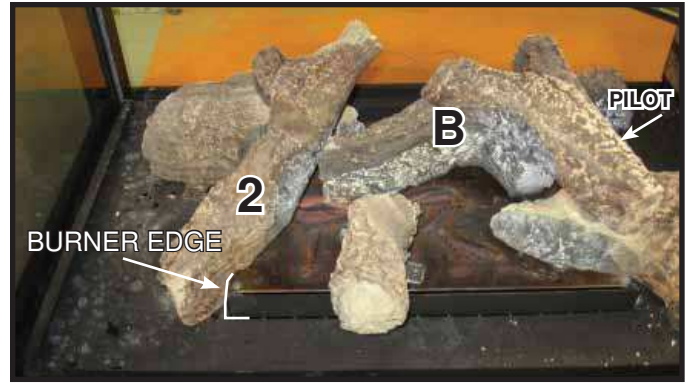

Figure 14.8. Placement of Log #2
**STEP 3. Log #2 (SRV2129-705):** Locate portion of Log #2 that is highlighted in Figure 5. Place that portion of Log #2 on the indentation on Log C. Log #2 will rest on the tip of Log B. Slide the bottom of Log #2 up to the edge of the burner as shown in Figure 14.8.